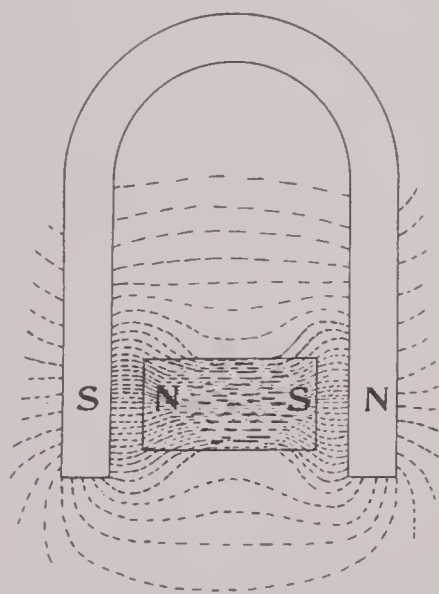

FIG. 207
4. Lines of force tend to crowd into and flow through magnetic materials. (See Fig. 207.)
stronger the magnetic field the stronger the bar becomes magnetized. The bar becomes so magnetized that its poles are unlike the poles of the magnet to which they are adjacent. (See Fig. 207.) The attraction between the unlike poles of the bar and the magnet, draws or tends to draw, the bar and magnet together. The attraction between the unlike poles is